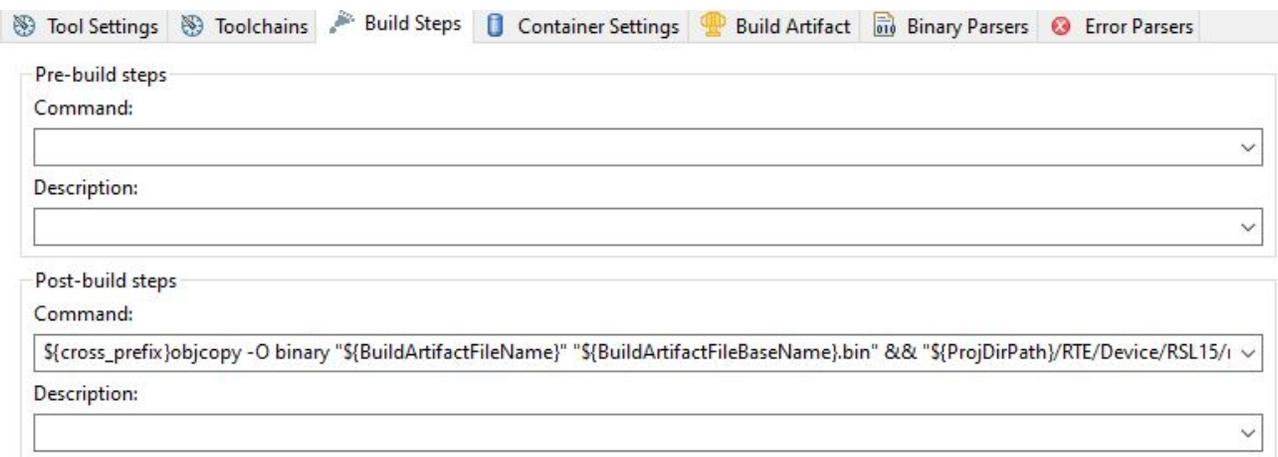

Figure 18. Post-Build Steps
- Modify the project post-build steps (see the "Post-Build Steps" figure (Figure 18)) to generate the FOTA image in both Debug and Release build configurations, by going to **Project > Properties > C/C++ Build > Settings > Build Steps > Post-build steps**. Two steps are required to generate the *fota* image. First, we need to generate the application sub-image *.bin* file using *objcopy*. Then, we use the *mkfotaimg.exe* tool to generate the FOTA image (*fota* file). Both commands can be concatenated with `&&` and added to the post-build steps as in the example that follows. To use this command, copy the code from the **Post-Build steps** of the existing sample application *ble\_peripheral\_server\_fota*, as the code in the text below is not directly copyable.